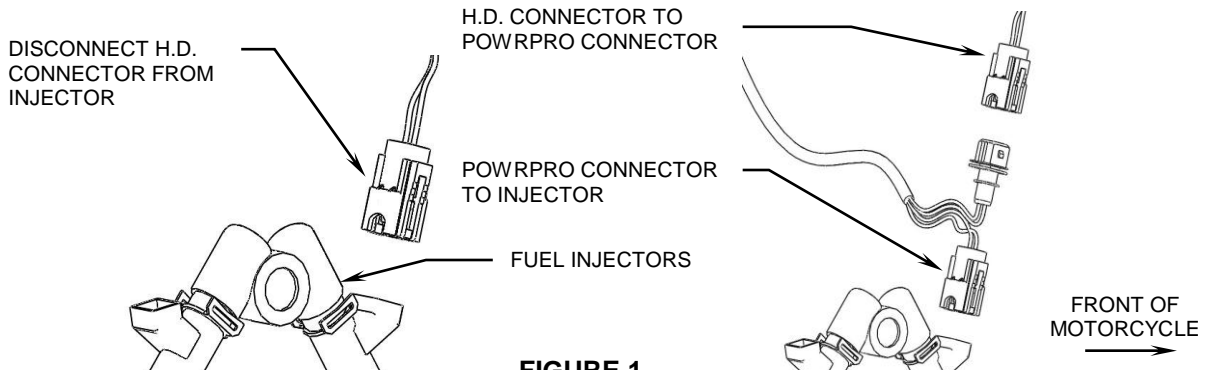

FIGURE 1
2. Locate the factory connector on each fuel injector. Depress the clips on the connector and pull the connector free and move it out of the way, see Figure 1. **Note:** A pair of needle nose pliers and a long flat blade screwdriver helps with this job.
4. Attach the pair of Fi2000 module's injector plugs labeled "FRONT" to the front injector. Take the original H.D. connector and insert the corresponding Fi2000 connector into it, refer to Figure 1.
5. Attach the Fi2000 module's remaining injector plugs labeled "REAR" onto the rear injector. Then take the original H.D. connector and insert the corresponding Fi2000 connector into it, refer to Figure 1.